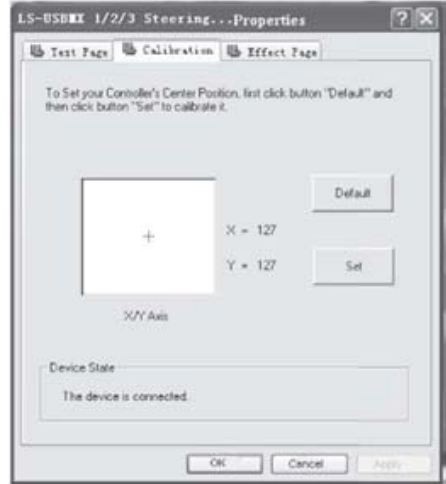

Fig. 8
- **Wheel calibration.** This option is only used for calibrating wheel centering fault under analog mode (the indicator LED turns red): when the cross cursor is not centered in the X/Y Axis as seen in the interface, please press “Default” and then press “Set” (Fig. 8).
• Program buttons 1, 2, 3, 4, 5, 6, 7 and 8, which by default assigned functions to gear stick ⑨, left wing and right wing ④, gas pedal ⑳, brake pedal ㉑, buttons 11 and 12. Which, you define by testing. If for some reason they need to be reprogrammed, to set other functions, do the following guidelines:
• *Program Setup (no programming function under NEGCON Mode)*. Enter “Test Page” (see Fig. 8), press button 9 and button 10 ⑭ at the same time. Hold for 3 seconds until program LED turns green. Press the programmable button. Program LED starts blinking. Press program source button. Program LED turns off. Program is set.